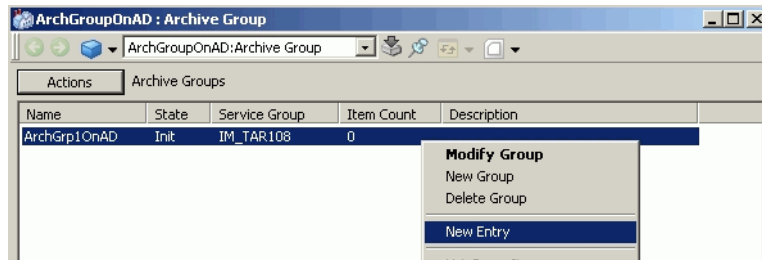

Figure 235. Adding a New Entry
1. Select the archive group from the list of archive groups, right click and choose **New Entry** from the context menu, Figure 235.